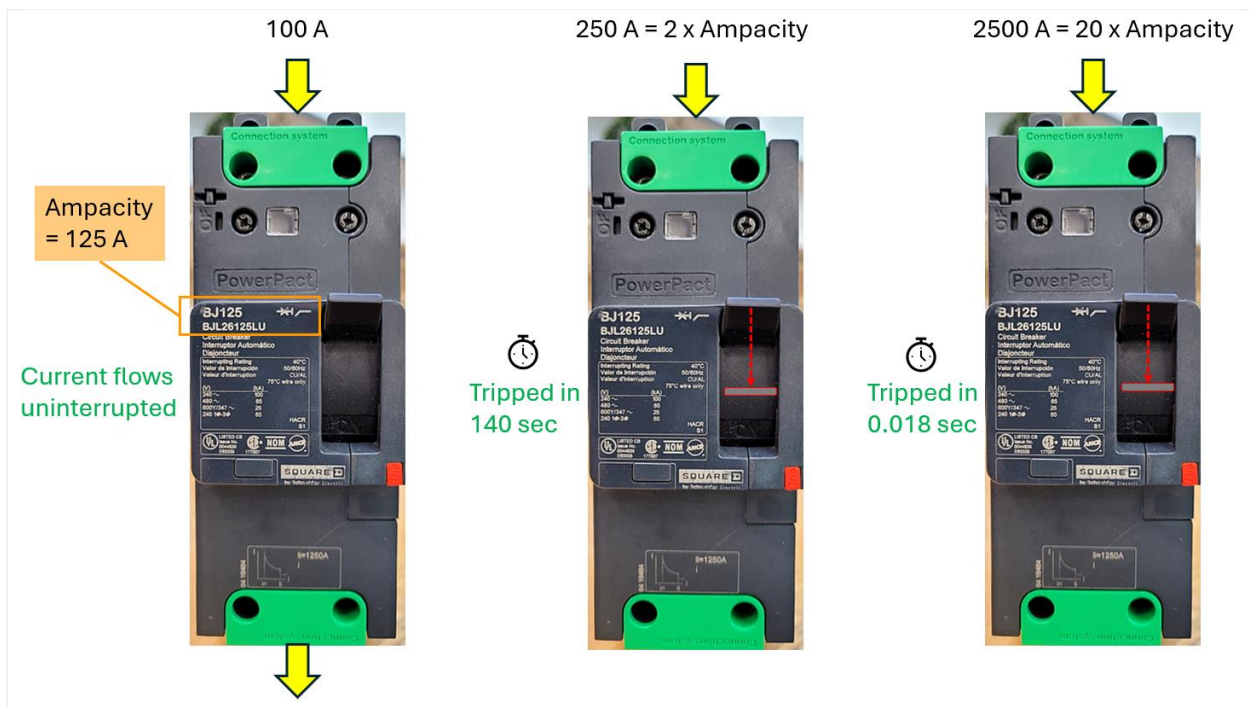
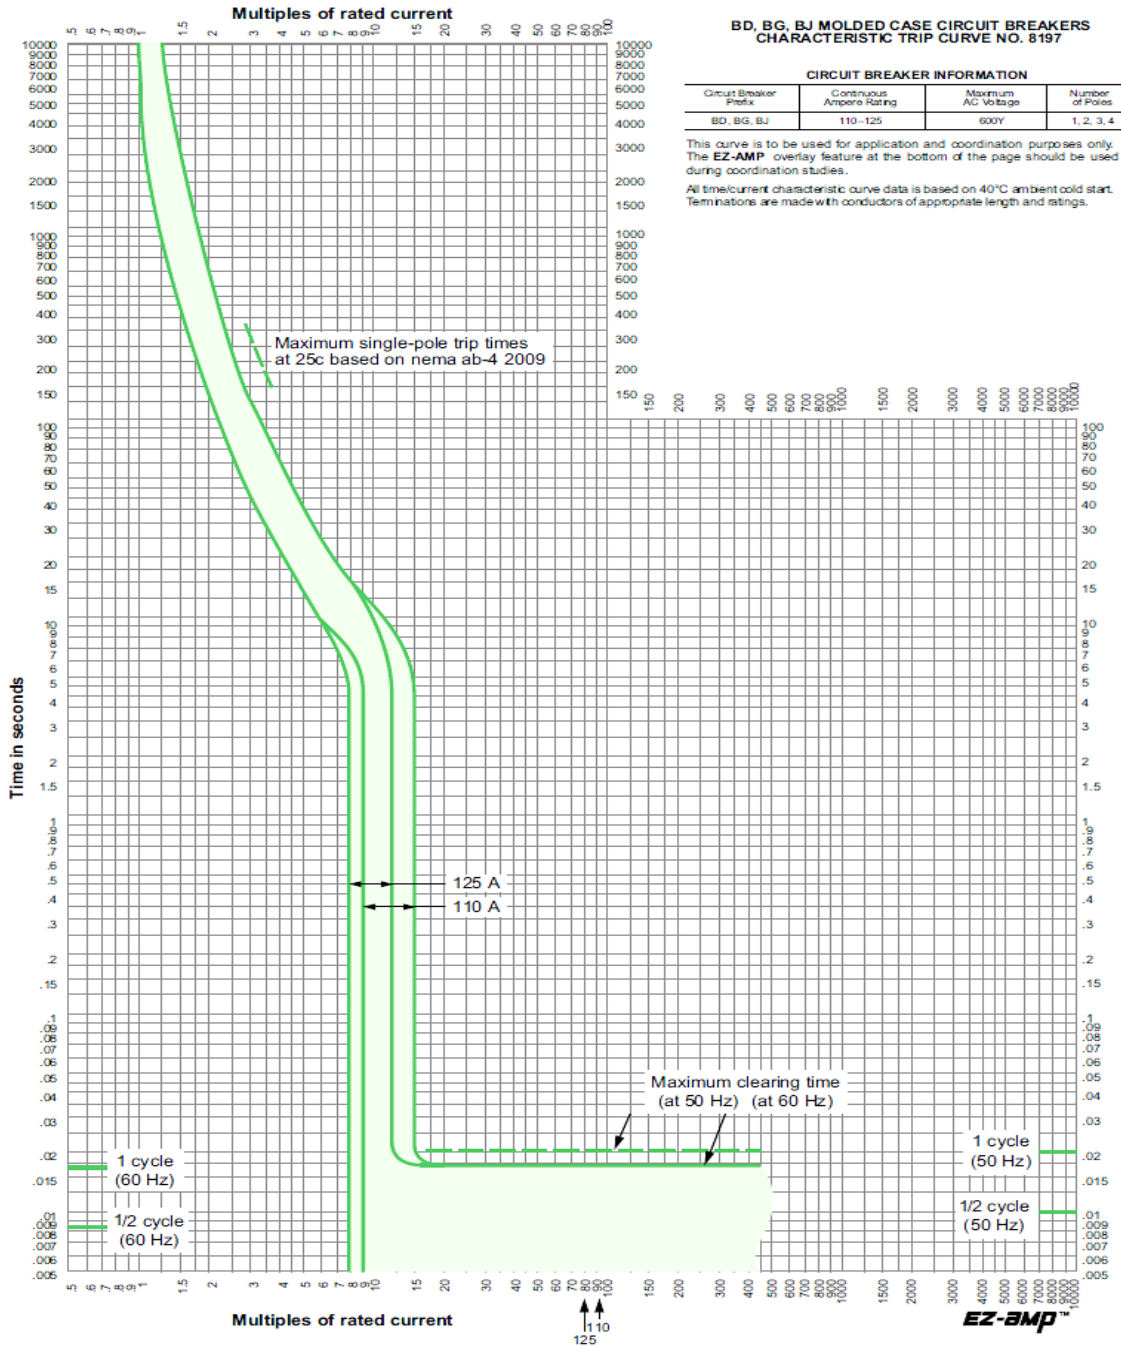

Figure 2 – Ampacity Rating: Minimum Current to Trip & Affect of Overcurrent on Trip Time
Figure 3 – Trip Curve for Example Circuit Breaker (source: Schneider Electric)
Ampacity rating for a circuit breaker can be defined as the minimum amperage that will cause a circuit breaker (CB) to trip (open). To understand this, let's look at an example in Figure 2. The PowerPact BJ125 circuit breaker in Figure 2 has an Ampacity rating of 125 A. As shown in Figure 2, when a current below the Ampacity rating enters the CB, it will not trip so current flows through the CB to the rest of the circuit. When a current above its Ampacity rating flows into the CB, such as 250 A (= 2 x Ampacity rating), the CB will trip (in 140 seconds at 250A) to interrupt current flow and protect all wires and components downstream from the breaker.
That depends on the current and the technology used to cause the circuit to open; various current sensing technologies exist such as thermal, magnetic, hydraulic and combinations of them. Regardless of the technology inside a CB, it will have a Trip Curve that plots the multiple of the rated current (where 1x = Ampacity rating) versus the time it takes for the CB to trip. Using the Trip Curve for the PowerPact B-Frame 110/125 A Thermal Magnetic Trip CB (see Figure 3 on next page), the trip time for the BJ125 CB in Figure 2, on previous page, is 140 seconds when input current is 250 A (2 x Ampacity) but reduces (almost by 8000x) to 0.018 seconds when input current is 2500 A (20 x Ampacity). As we know from Ohm’s Law, power (or heat) created varies by the square of current, so a 10x increase in current results in a 100x increase in heat developed; to prevent damage, the CB must trip much more quickly.